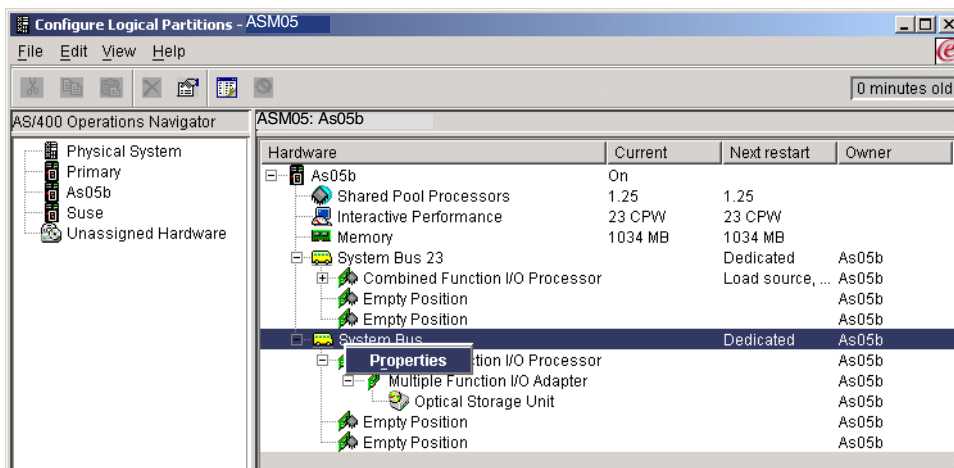

Figure 8-19 Configure Logical Partitions display: Properties
2. Click the system bus to be changed (in our example, bus 24). Right-click and select **Properties**. See Figure 8-19.